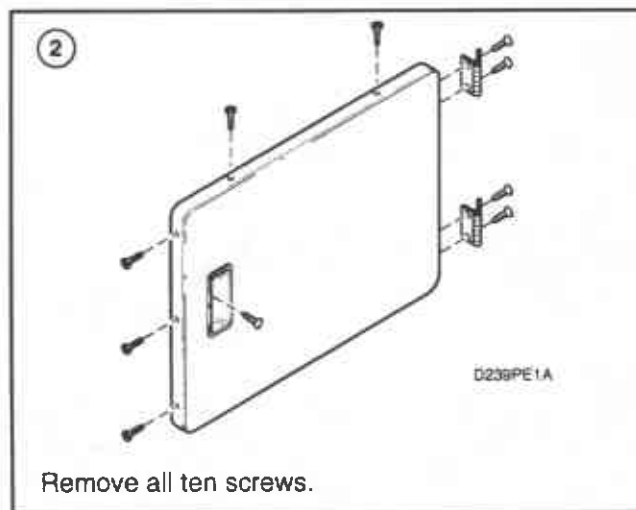

Figure 11
- Remove screw from door pull, *Figure 11*, and the remaining screws around the door perimeter and separate panels, *Figure 11*.